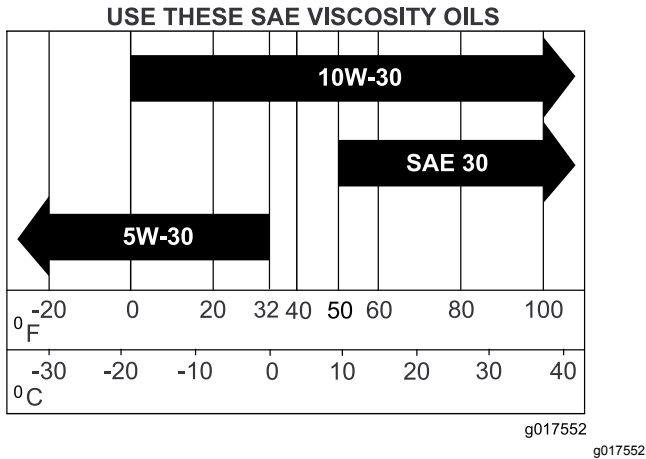

Figure 47
3. Fill the crankcase with the proper type of new oil (Figure 47).